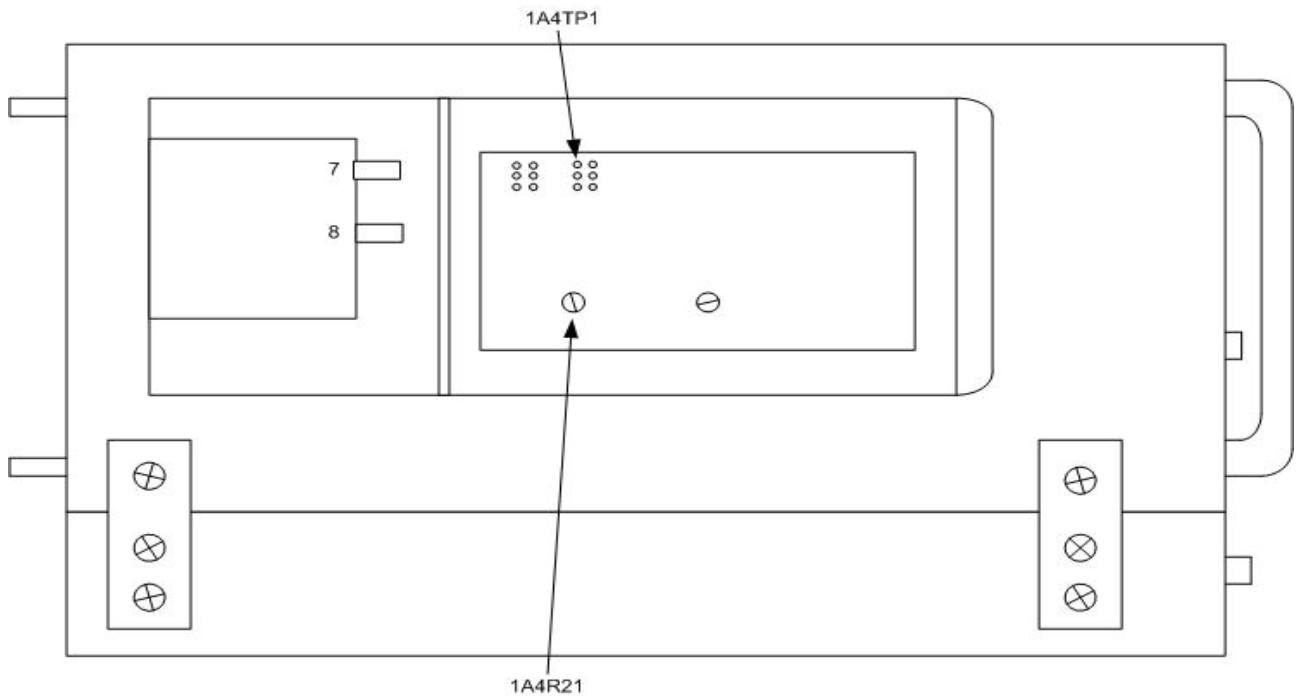

Figure 3. Signal generator - left view.
(1) Connect multimeter between pin 4 and pin 2 (common) of connector 1A4TPI (fig. 3). If multimeter does not indicate between 2.07 and 2.53 V dc, perform **b** (1) below.
- (2) Adjust 1A4R21 (fig. 3) until multimeter indicates -1250 V dc (R).